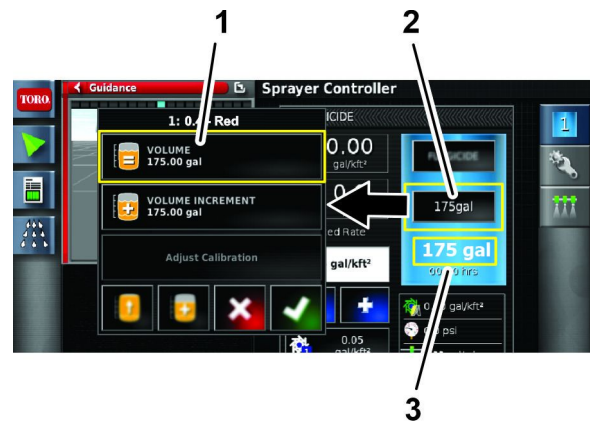

Figure 123
2. Press the VOLUME icon (Figure 123).